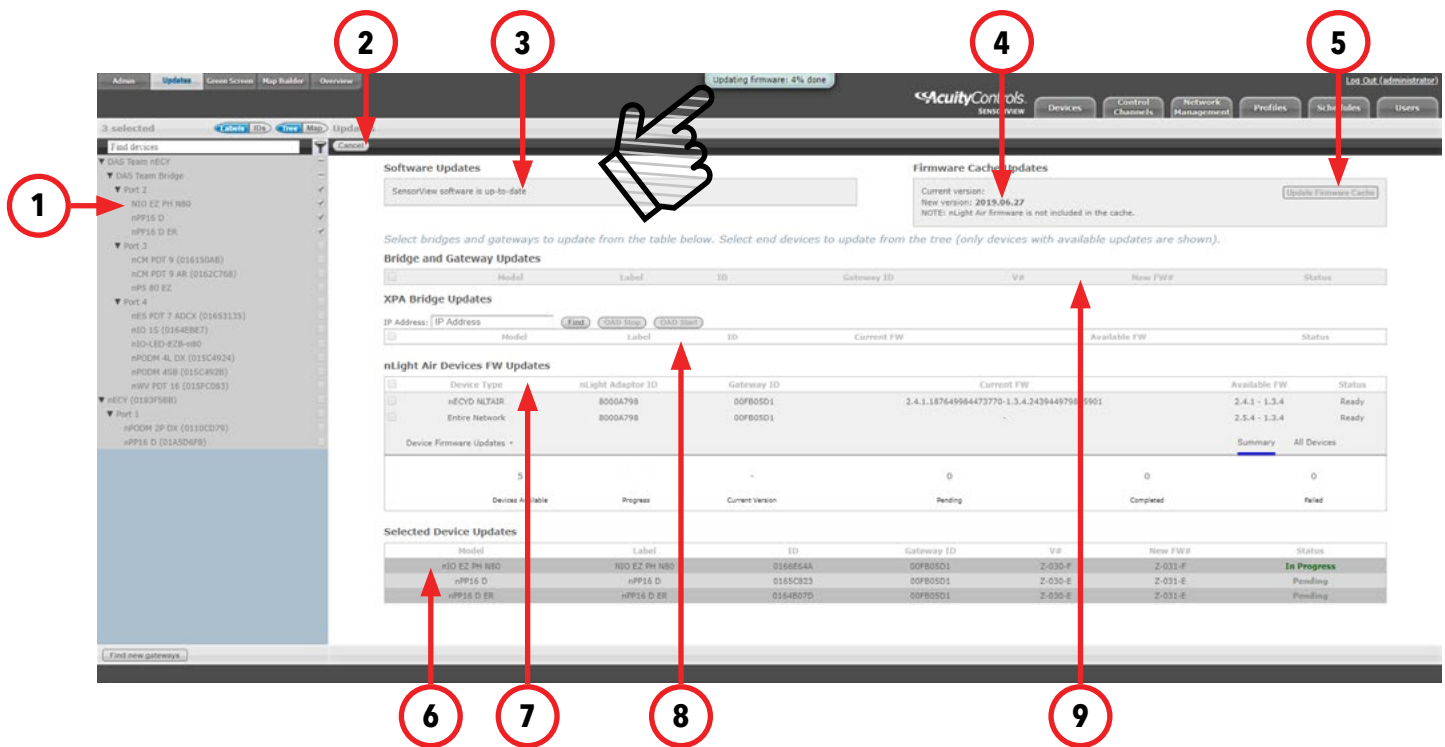

Figure 25: Updates
This feature enables user to update SensorView and network devices' firmware to the most recent versions. When this screen is accessed, SensorView's firmware cache will be updated for all available devices, and the information will be displayed as shown below (Figure 25).
2. **Update Firmware Button:** Clicking the **Update Firmware** button writes the latest firmware to all selected devices. As the devices update, the status of the update will be captured through a bubble at the top of the screen as pointed out in Figure 25. The status of the write will be displayed on the **Status** column of the grid. The grid also contains the details of the device with current firmware version.